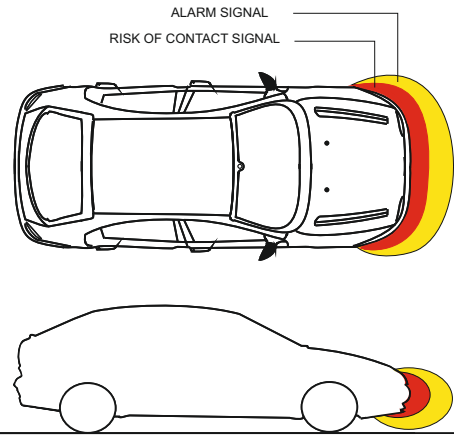

Fig. 6
- Insert into the ECU all connectors in the proper position (see Fig. 6)
The activation of the device is obtained by pressing the activation button and confirmed by a signal of "OK". Once activated, the EPS-DUAL FRONT generates around the bumper, on which is installed, a protection zone (Fig. 6). When any obstacle present in the protection zone tends to approach the bumper you will hear a series of beeps.
- The distances will vary depending on the size of the obstacle and correspond to the central zone of the bumper; on the lateral edges the distances is less (see Figure 6)